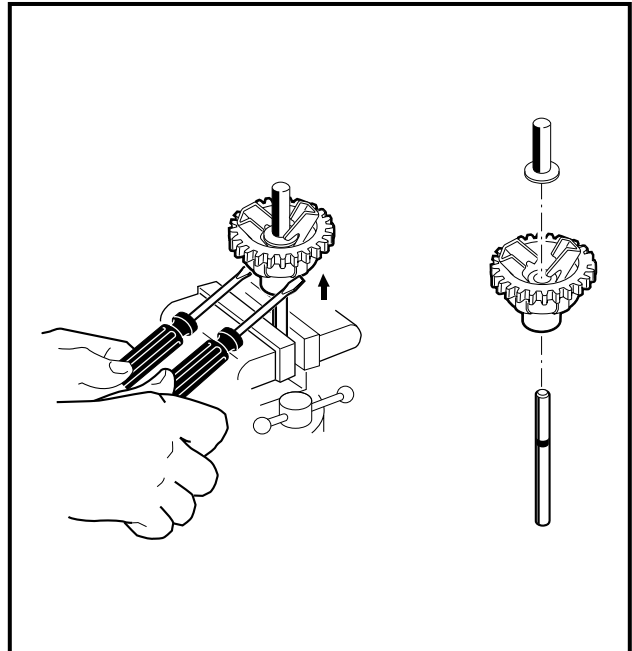

Figure 16-50 Pry Gear from Shaft
1. Secure the governor gear assembly in a vise as shown. Wrap shaft in a cloth to prevent damage (**Figure 16-50, Page 16-21**).
2. Use two small screwdrivers to pry the gear and flyweight off the shaft as shown (**Figure 16-50, Page 16-21**).